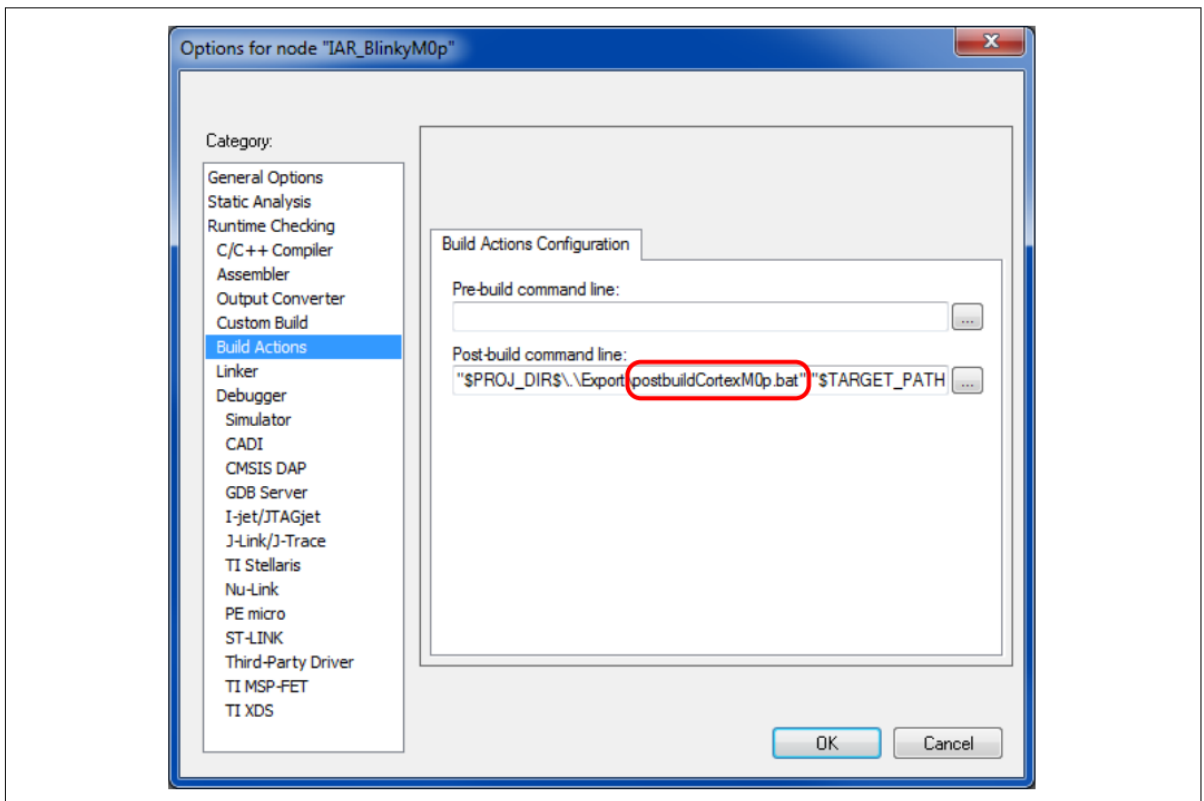

Figure 34 Select PSoC™ Creator post-build batch file
Now that the project is created, you must set its options. Right-click the project, and select **Options...**. Confirm in the Options dialog, **Build Actions** section that `postbuildCortexM0p.bat` is called, as Figure 34 shows
- In the **Build Actions** section, confirm that postbuildCortexM4.bat is called, see Figure 34